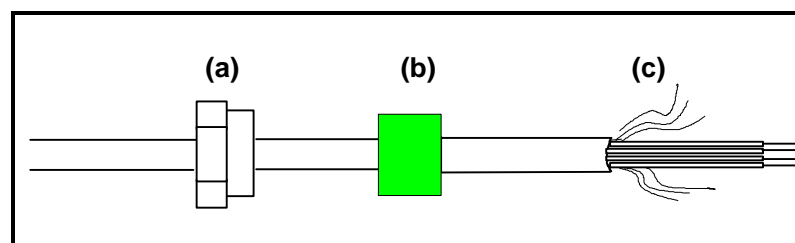

Figure 22:
- Slide the compression screw and the neoprene seal over the shielded cable as illustrated in Figure 22.